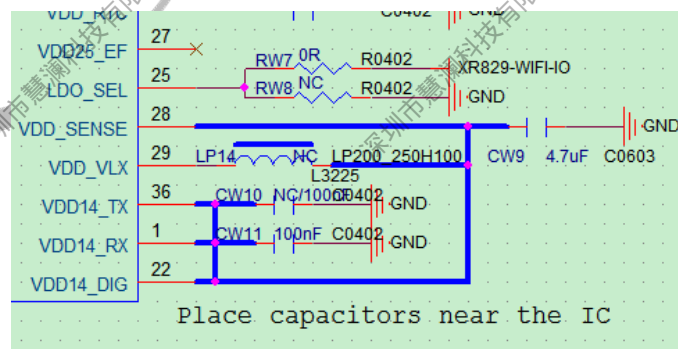

Figure 2-34 XR829 VDD14 Power Design
- The VDD14_XX power output of XR829 has LDO and DCDC modes. If using LDO output mode, please pull up the LDO_SEL pin to VCCIO-WIFI, and at the same time no connect the inductor LP14, and the power is output from the SENSE pin. If using DCDC output mode, please pull down the LDO_SEL pin to GND, and mount the inductor LP14 at the same time, and the power is output from the VLX pin. As shown in Figure 2-34.